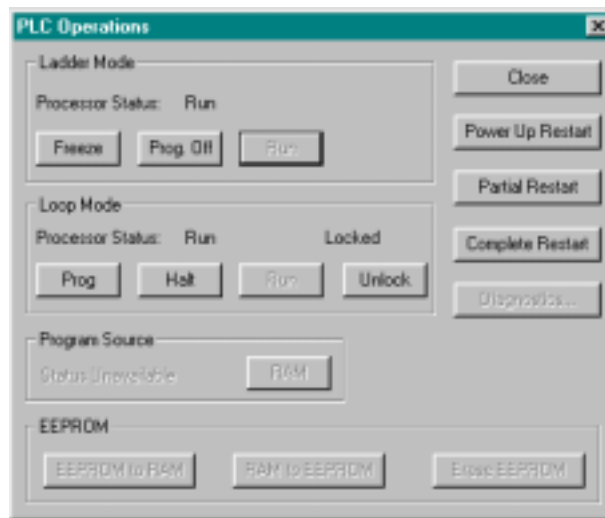

Figure 6.12
1. Click PLC Operations from the PLC Utilities menu (Alt+U, O). The PLC Operations dialog box appears (Figure 6.12).
2. When you have S-memory configured, you receive a display with three fields, as shown in Figure 6.12, to change operating mode. Use the mouse or arrow keys to select the desired field.